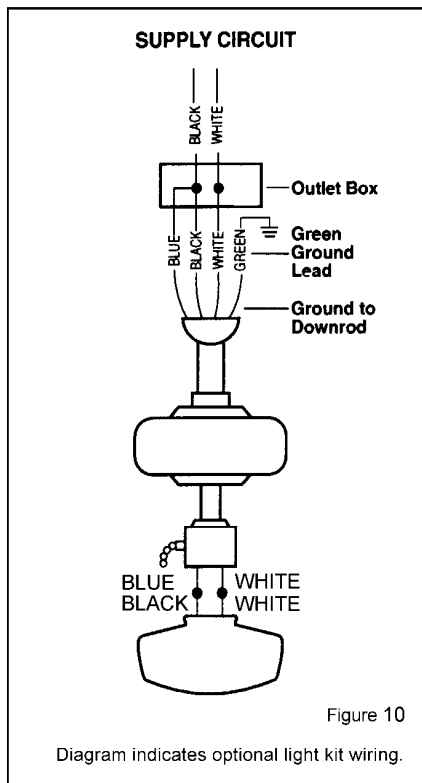

Figure 10
Step 3 Connect the fan light supply wire and the fan supply (black & blue) wire to the black household supply wire as shown in Figure 10.